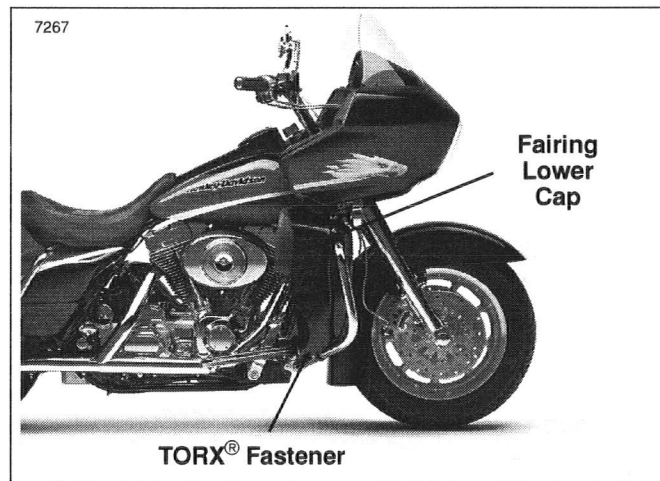
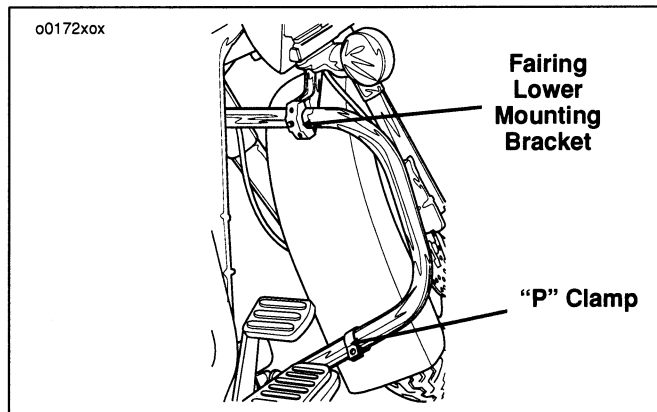

Figure 34. Right Fairing Removal
Figure 35. Right Fairing Lower Mounting
1. See Figure 34. Remove two phillips head fasteners from fairing lower cap on right side of vehicle.
4. See Figure 35. Remove the fairing lower mounting "P" clamp on the bottom of the engine guard.
5. See Figure 35. Remove the aluminium fairing lower mounting bracket from the top of the engine guard.
2. See Figure 34. and Figure 35. Install aluminium fairing lower mounting bracket to the engine guard, using the two fasteners removed in step 1. Tighten fasteners to 36-60 in-lbs (4-7 Nm) torque.